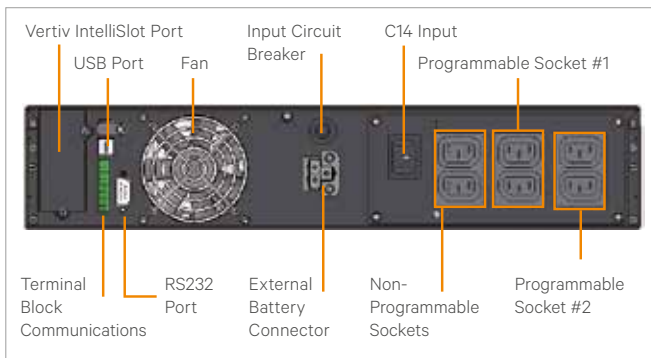

Figure 4: Programmable sockets on Liebert GXT4 UPS.
- Programmable sockets should provide information when the loads are connected. This is done in Liebert GXT4 using specific text labels on the rear panels (shown in Fig.4) and silk screens on each socket relative to its particular feature - avoiding the risks of wrong connections